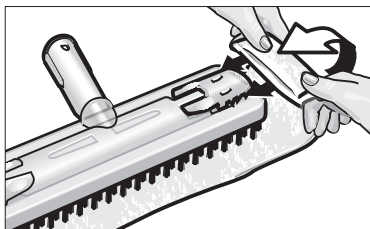

Fig. 3: Attaching the floor cloth
- Attach the floor cloth (G3) to the floor nozzle (G1). Fold the cloth lengthways and place the floor nozzle on top. Pull the ends of the cloth one after the other under the retaining clips (G2) (see Fig. 3).